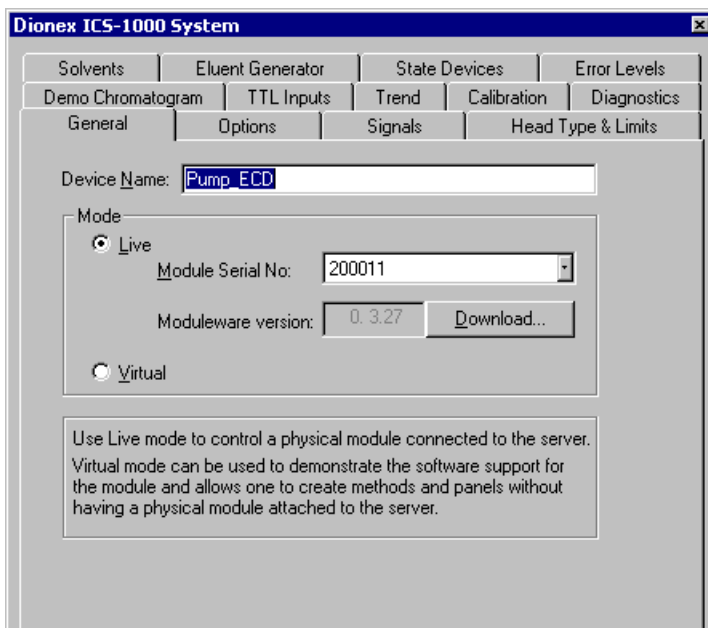

Figure 13. ICS-1000 System Properties
12. The ICS-1000 System dialog box opens (see Figure 13). The **General** page shows the Device Name (**Pump_ECD**), the Mode (**Live**), and the Module Serial No.